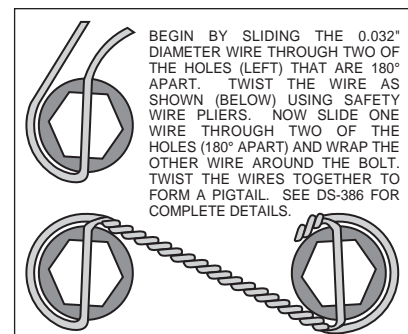

Figure 6. Safety Wire Diagram
- With the slot pointing upward and the mounting ears pointing towards the rear of the vehicle, install the caliper mounting bracket (1) to the housing flange using the stock Original Equipment Manufacturer (OEM) bolts and nuts. Stock OEM hex nuts that retain the bracket (1) should be on the wheel side of the bracket. Apply red *Loctite*® 271 to the stock OEM bolt threads and torque to OEM specifications. **NOTE:** Make sure the heads of the caliper mounting bracket insert nuts are FACING OUTWARD TOWARDS THE WHEEL.
- Bolt the hat (2) to the rotor (3) using lock washers (4) and bolts (5). Torque bolts (5) to 180 in-lb. Safety wire bolts (5) using standard 0.032 inch diameter stainless steel safety wire as shown in Figure 6. Please refer to Wilwood's data sheet DS-386 (available at www.wilwood.com/pdf/ds386.pdf) for complete safety wire installation instructions.
- Align the correct hole pattern in the hat (2) with the stud pattern on the axle flange. **NOTE:** Some OEM and after market axles come with stud sizes larger than 0.50" diameter. Verify stud size and have a qualified machine shop drill the hats to the correct size. Slide the hat/rotor assembly (2 and 3) over the wheel studs and against the axle flange face.
- NOTE:** Please reference the caution statement at the beginning of the assembly instructions. WITH THE BLEED SCREWS POINTING UP, mount the caliper (6) over the rotor (3) and onto the caliper mounting bracket (1) using lock washers (7) and mounting bolts (8). View the rotor through the top opening of the caliper. The rotor should be aligned in the center of the caliper. If not, adjust the caliper by using 0.032 inch shim washers (9), placing them between the caliper mounting bracket (1) and the caliper (6). Apply red *Loctite*® 271 to the mounting bolt threads (8), torque bolts to 30 ft-lb. Safety wire the caliper mounting bolts (8).
- Position the Wilwood disc brake pads (10) into the caliper (6) and fasten with cotter pin (11). Steel backing plate side of brake pad should face the caliper pistons.